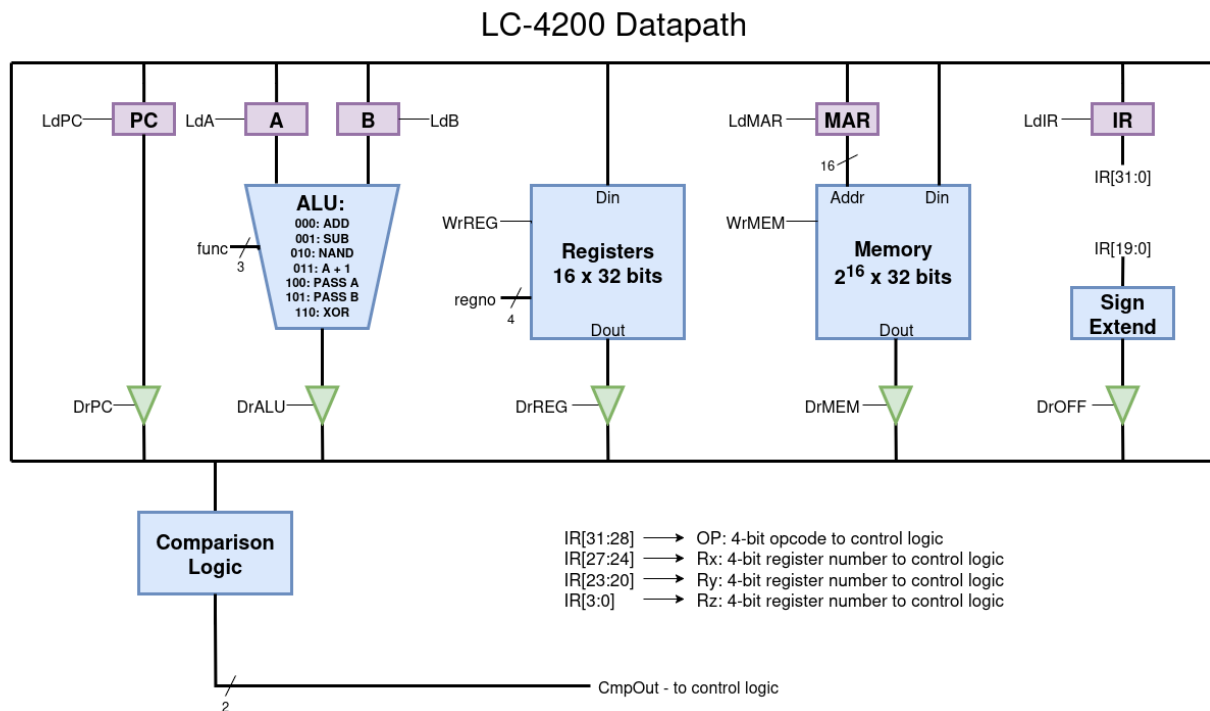

Figure 1: Datapath for the LC-4200 Processor
2. Using CircuitSim, implement the LC-4200 datapath. To do this, you will need to use the details of the LC-4200 datapath defined in Appendix A: LC-4200 Instruction Set Architecture. You should model your datapath on Figure 1.
The “comparison logic” box in Figure 1 is responsible for performing the comparison logic associated with the BEQ, BGT, and CLMP instructions. The comparison logic should read the current value on the bus. When executing these instructions, you should compute $A - B$ using the ALU. While this result of the ALU is being driven on the bus, you should wire the value of $A - B$ into a comparator, and use the resulting outputs as necessary to handle all cases of the comparison logic across all instructions.
2. Implement the Microcontrol Unit using CircuitSim. The appendix contains all of the necessary information. Take note that the input and output signals on the schematics directly match the signals marked in the LC-4200 datapath schematic (see Figure 1).
3. Connect the completed control unit to the datapath you implemented in Phase 1. Using Figures 1 and 2, connect the control signals to their appropriate spots.